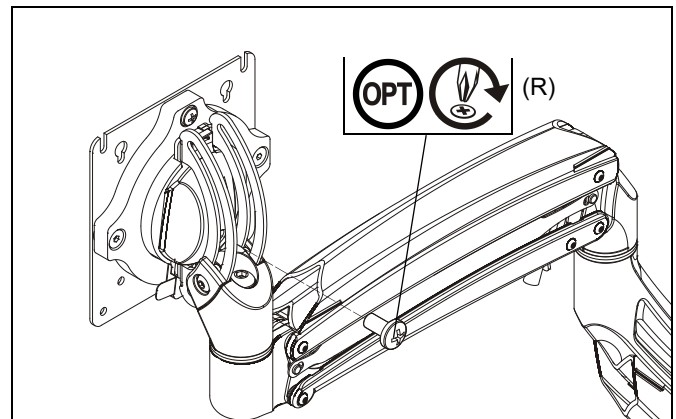

Figure 20
NOTE: In order to prevent display from being easily removed from mount using the quick release lever, install M4x4mm security screw (R) into lower hole on back of faceplate. (See Figure 20)